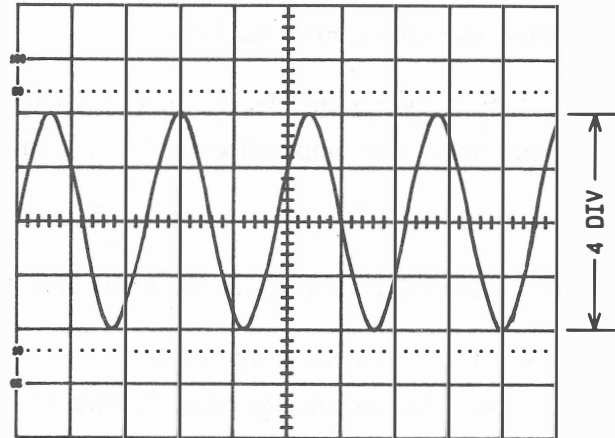

FIGURE 2-7. PEAK-TO-PEAK VOLTAGE MEASUREMENT
2. Adjust the TIME/DIV switch (23) for two or three cycles of waveform, and set the VOLTS/DIV switch for the largest-possible totally-on-screen display.
3. Use the appropriate Vertical POSITION control (19) or (20) to position the negative signal peaks on the nearest horizontal graticule line below the signal peaks, per Figure 2-7.
4. Use the Horizontal POSITION control (26) to position one of the positive peaks on the central vertical graticule line. This line has additional calibration marks equal to 0.2 major division each.
5. Count the number of division from the graticule line touching the negative signal peaks to the intersection of the positive signal peak with the central vertical graticule line. Multiply this number by the VOLTS/DIV switch setting to get the peak-to-peak voltage of the waveform. For example, if the VOLTS/DIV switch were set to 2V, the waveform shown in Figure 2-7 would be 8.0V p-p ($4.0 \text{ div} \times 2\text{V}$).